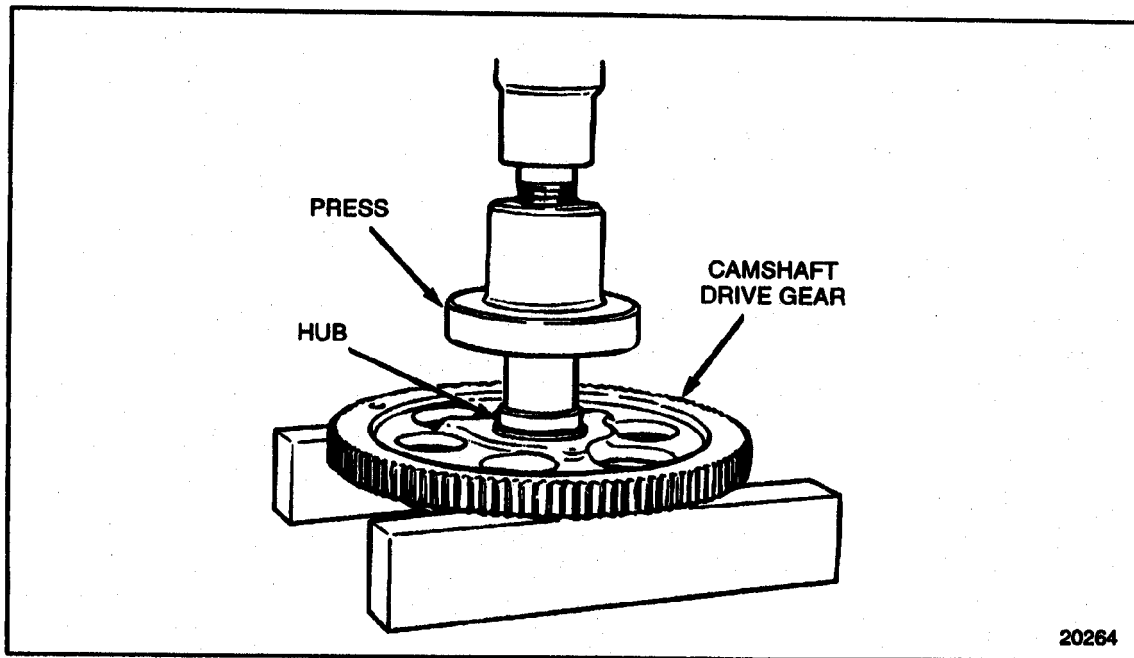

Figure 1-360 Camshaft Hub Removal
9. Press the hub out of the camshaft drive gear until the hub separates from the camshaft thrust plate. See Figure 1-360.